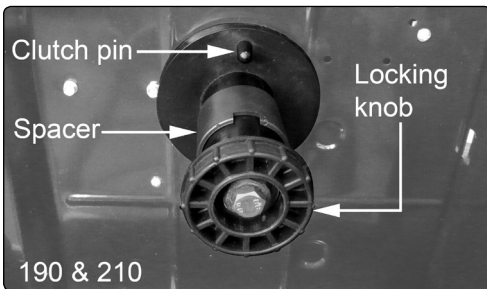
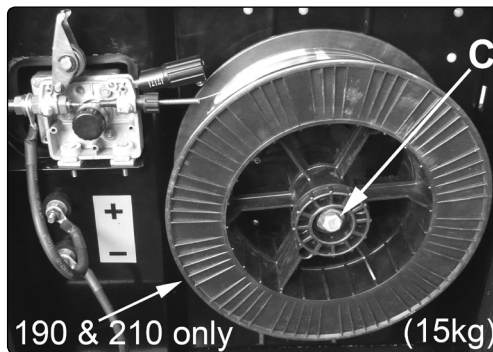

fig.7
fig.8
- 4.10. Unscrew the locking knob from the end of the spool holder (see fig.7) and remove the spacer. Slide the reel of wire onto the spool holder and ensure that the clutch pin at the back of the spool holder engages into the guide hole in the wire reel moulding. This will prevent the wire reel from free-wheeling on the spool holder. When using a 5kg reel, slide the spacer onto the spool holder before re-fixing the locking knob. Ensure that the wire is coming off the top of the reel in the direction of the wire drive unit as shown in fig.8 which shows a 15kg reel of wire in place on the spool holder.
4.14.3. Tighten the clutch nut located in the centre of the wire spool holder with a spanner (fig.8-C) and test the machine as above until the wire stops over running.